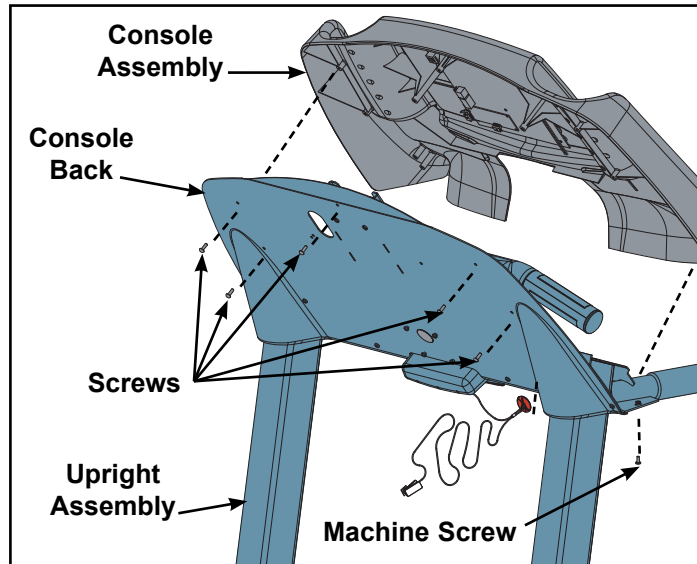

Figure 10
G. Using a Phillips screwdriver secure the two screws (#14) securing the console back cover (#5) to the console front (#4). See Figure 10.
A. Using a Phillips screwdriver, partially tighten each motor cover side (left and right) with four screws, 10-32 x .75" (#16). See Figure 10.